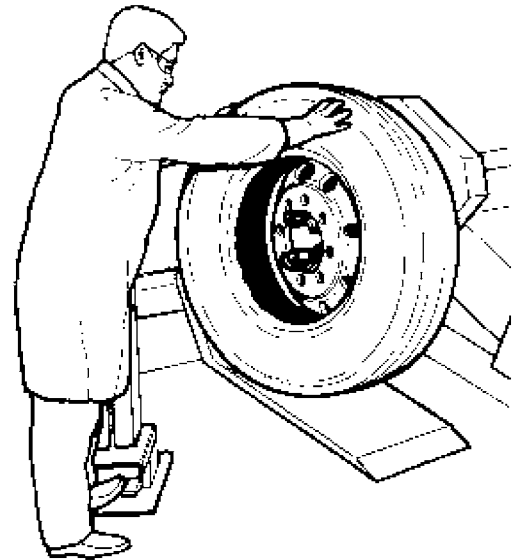

Fig.22
8. Move to the front of the tire and hold it with both hands in the last part of demounting operation to prevent the tire from falling or rolling away out of control (fig.22).